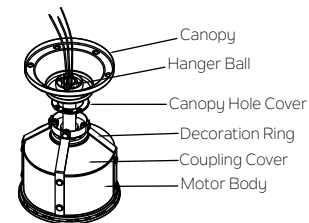

Fig. 8
Step 4. Slip the coupling cover, decoration ring canopy hole cover and canopy onto the downrod. Carefully reinstall the hanger ball onto the downrod. Make sure the cross pin is in the correct position and the set screw is tight and the wires are not twisted. (Fig. 8)